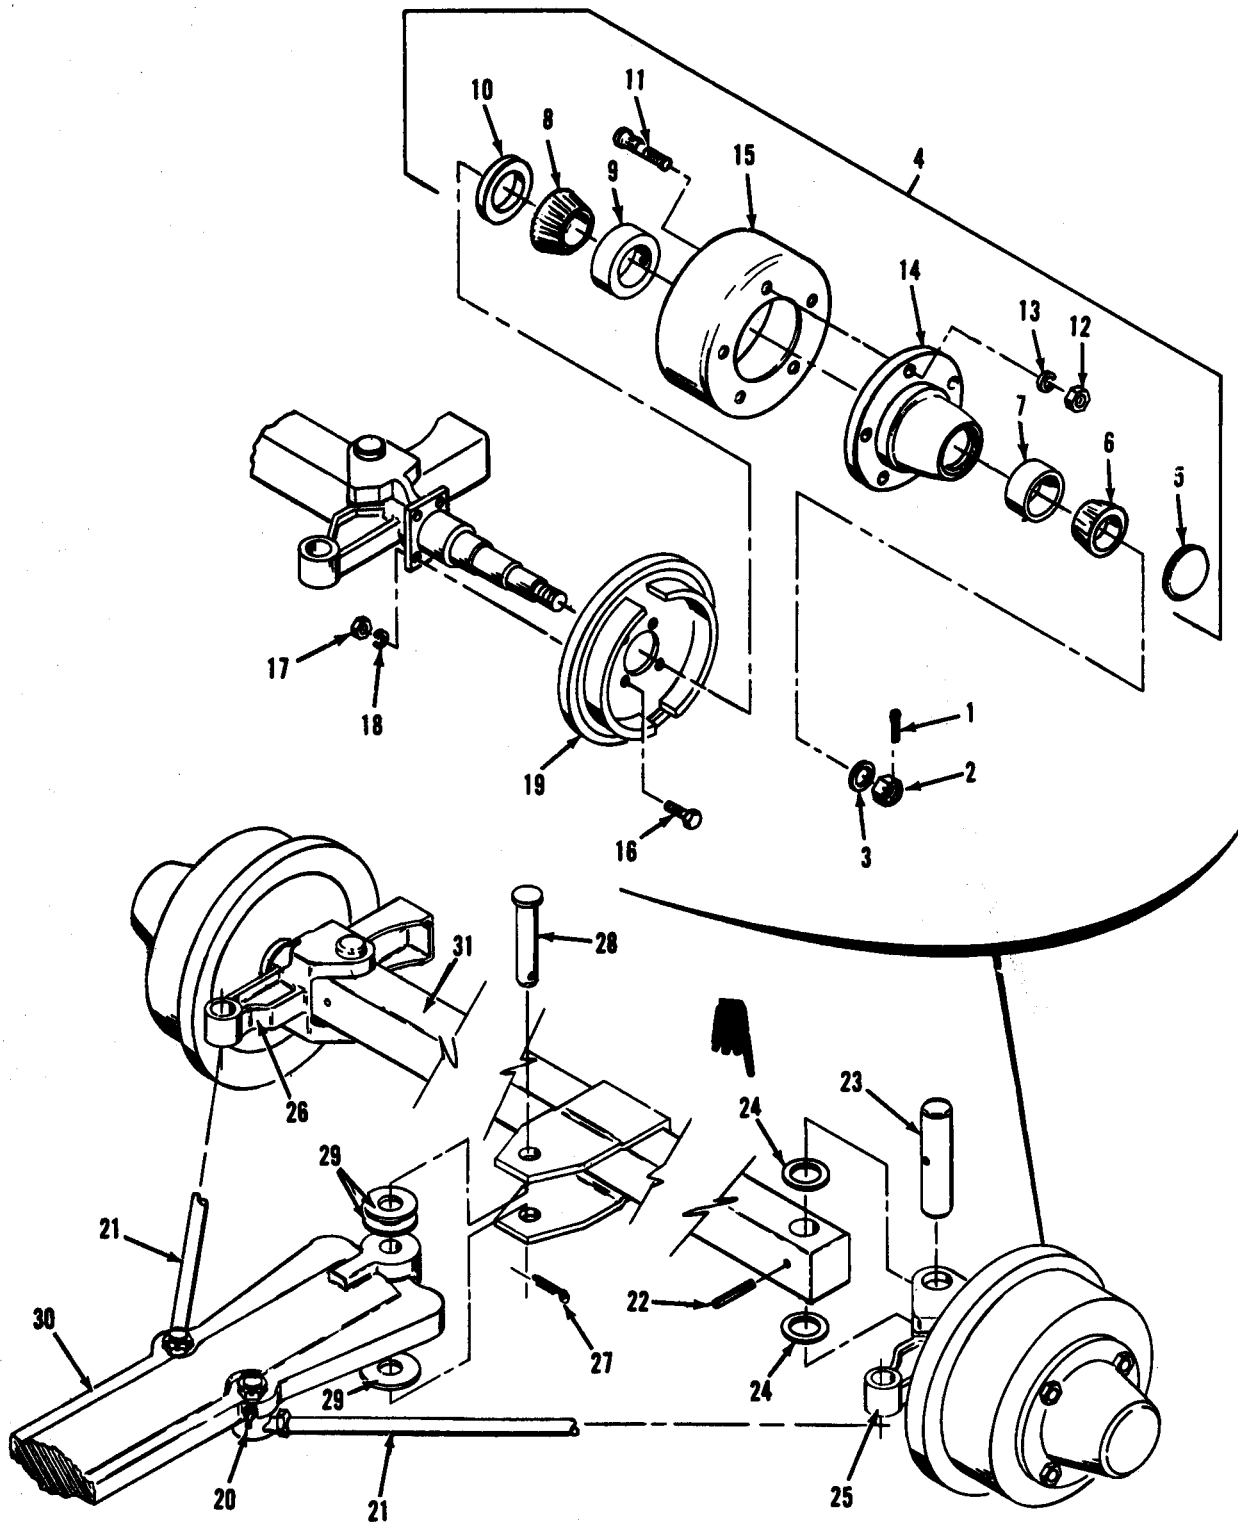

Figure 4-11. Front axle assembly, exploded view
a. COMPONENT REMOVAL. Refer to figure 4-11 and remove components from front axle in the sequence of index numbers. Pay particular attention to the following:
Legend to figure 4-11:
7. Using a suitable reamer, ream king pin (23, figure 4-11) bushing until king pin is a thumb press fit.
Refer to figure 4-11 and install components in the reverse order of index numbers assigned. Pay particular attention to the following:
2. Install wheel bearing races and seal (10) as specified in paragraph 4-36.
3. Adjust wheel bearings as specified in paragraph 4-36 prior to installing pin (1) and cup (5).
e. ADJUSTMENT. Refer to figure 4-11 and adjust tie rod assembly as follows: